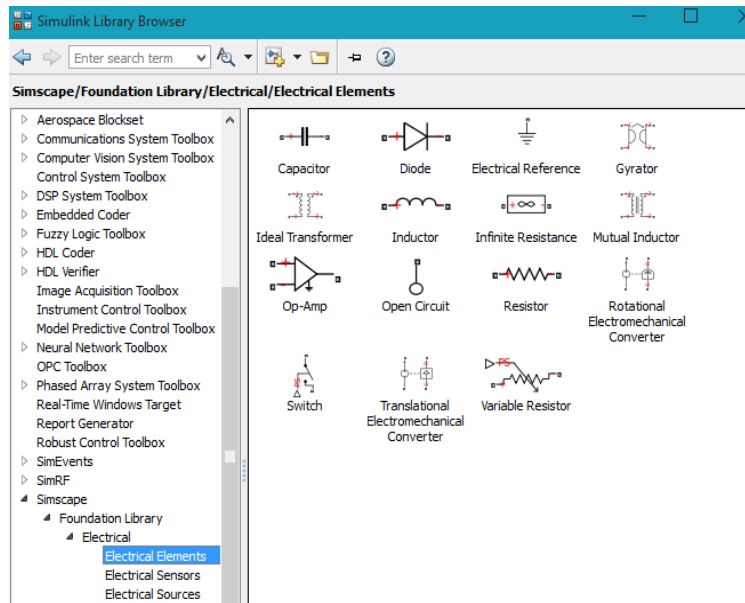

Figure 3.5: Electrical Element, step 3
3. Open the Simscape > Foundation Library > Electrical Element Elements library as shown in figure 3.5.